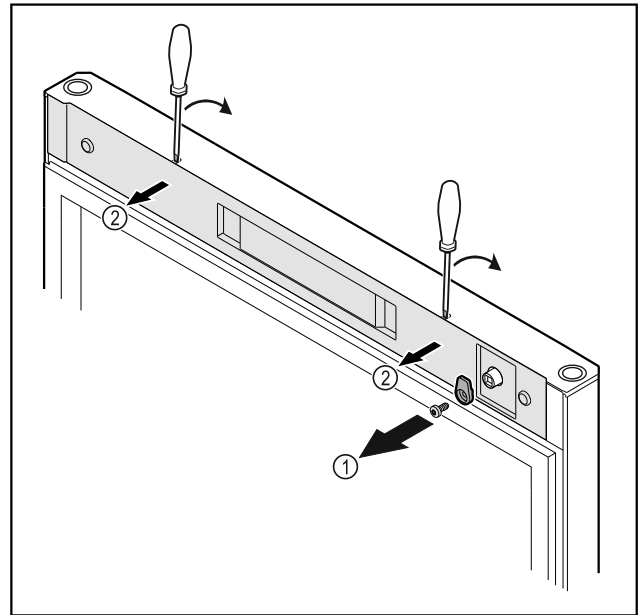

Fig. 14
- Unscrew the door latch Fig. 14 (1).
- Unlatch the cover Fig. 14 (2) with a small screwdriver and remove it.